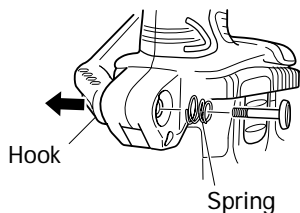

Fig. 7
- (b) Remove the hook and spring (Fig. 7).